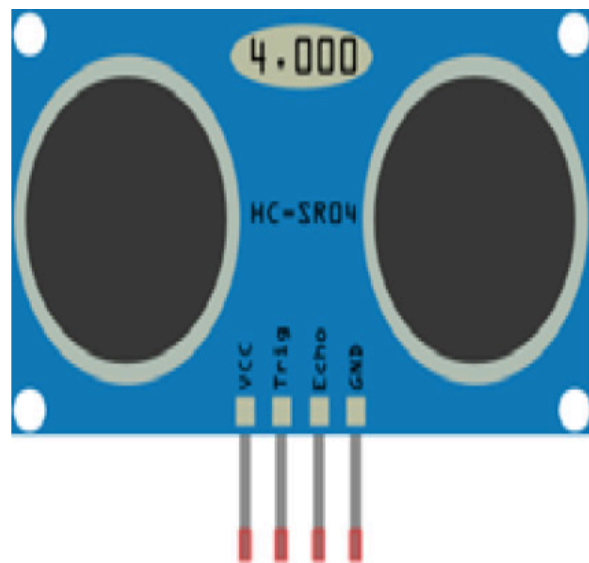

Figure 14.3 – The HC-SR04 ultrasonic sensor pinout
*Figure 14.3* shows a Fritzing diagram of the ultrasonic sensor:
From *Figure 14.3*, you can see the sensor pinout. The **VCC** pin is connected to a 5-volt power supply. The **Trig** and **Echo** pins are connected to the microcontroller board's digital ports. The **GND** pin is connected to ground.